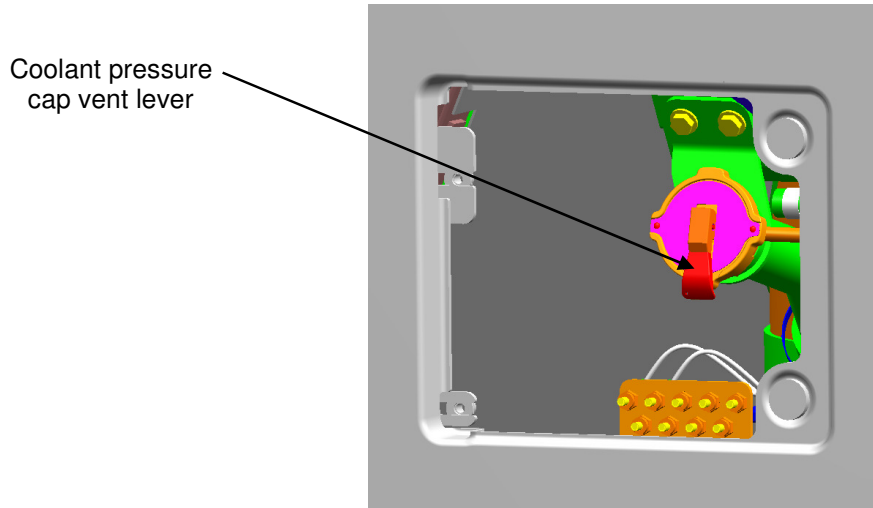

Figure 1: Surge Tank Coolant Pressure Cap Vent Lever
2. Open the coolant fill door and release the coolant system pressure completely by lifting the coolant pressure cap vent lever on the surge tank, see Figure 1 for location.